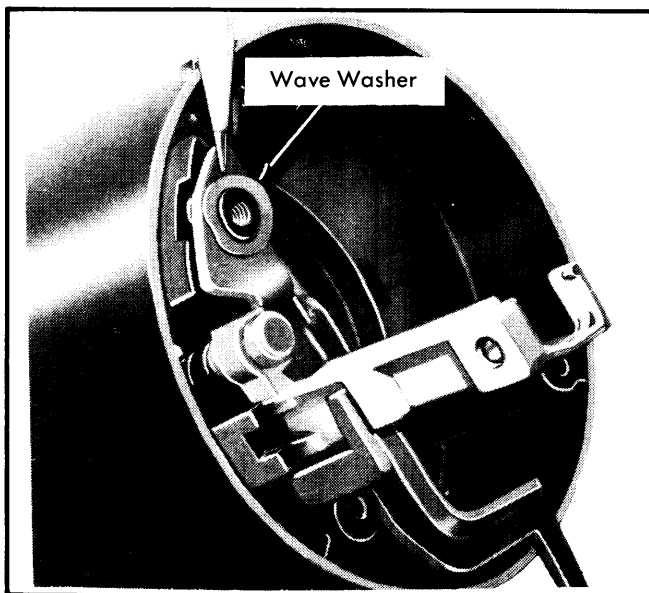

Fig. 3 Wave Washer Removal on Manual Transmission Models
10) Remove screws securing shroud to housing and remove shroud. Remove wave washer from key-release lever pivot. Remove key release lever and spring. Remove lock rack and bolt assembly. Remove rack preload spring. See Fig. 3.